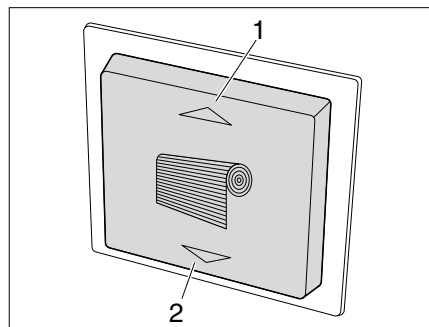
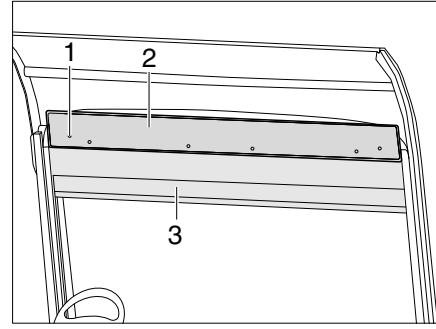

Fig. 82 Switch for blind
Fig. 84 Blind emergency function
Closing: ■ Press the (Fig. 82/2) button. The blind (Fig. 84/3) for the windscreen rolls down.
Opening: ■ Press the (Fig. 82/1) button. The blind (Fig. 84/3) for the windscreen rolls up.
- Unscrew 6 screws (Fig. 84/1) on the blind box and remove the panel (Fig. 84/2).
- Hang the crank in one of the two motors and raise or lower the blind (Fig. 84/3).